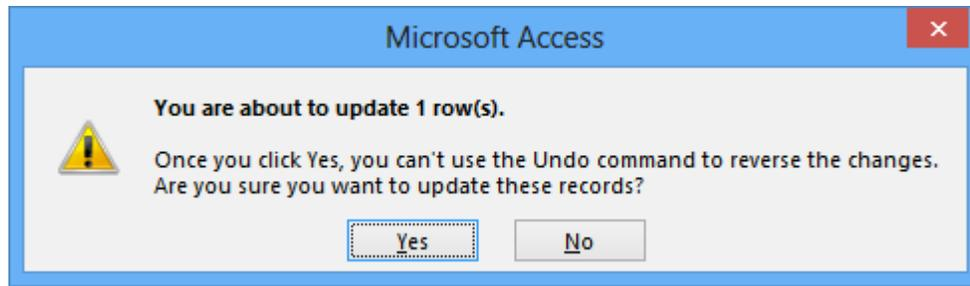

Figure 44: Update Message Box
- Execute the Query:** When you try to execute the query, the message in Figure 44 appears. Click the **Yes** button to update the record. Update queries can be repeatedly executed if you desire. If you execute this query two more times, the *UnitsInStock* field is reduced by 2. Close and save the query as “SQL6” when prompted.